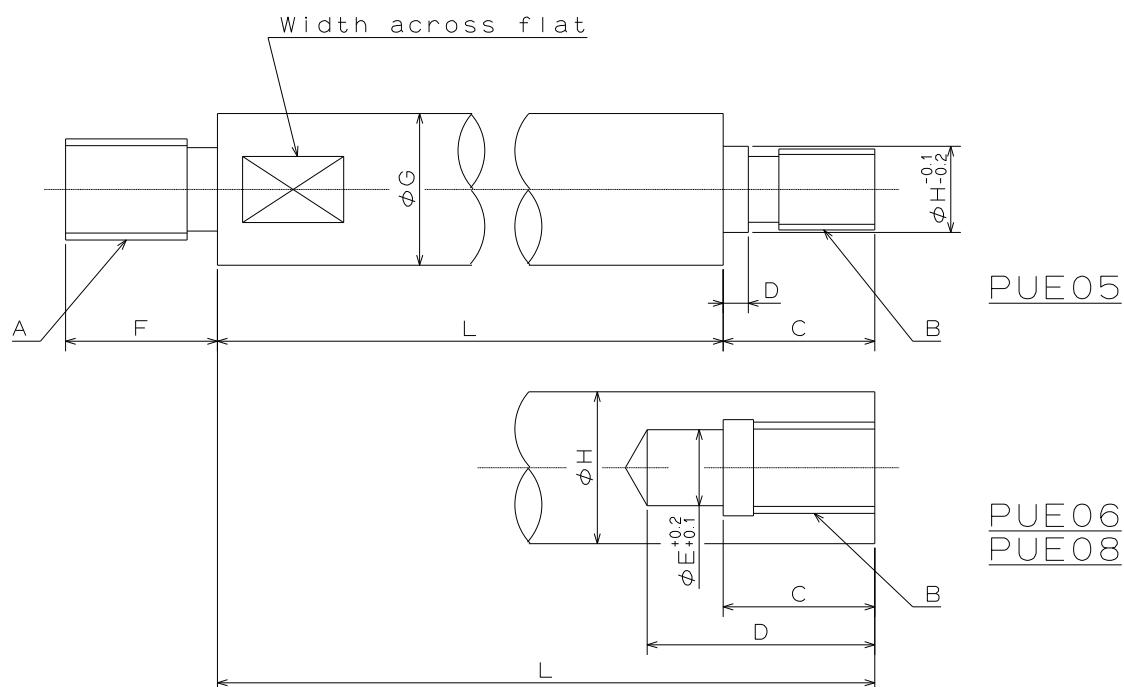

Fig.12
- Keep the dimension H in Fig. 12 for the draw bar and a material with the tensile strength 380MPa (38kgf/mm2) or more must be used.